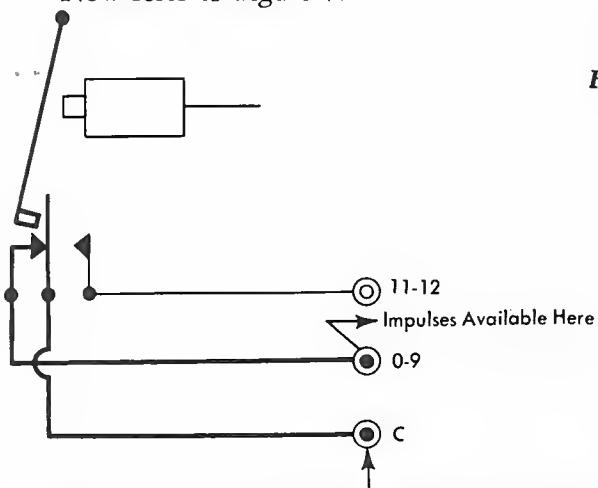

Figure 7. Wired fram Brushes — All Punches 9-12
Now refer to Figure 7.
3. After the 11 zone has been read, the magnet will be de-energized and the X-Eliminator circuit will appear as Figure 7.